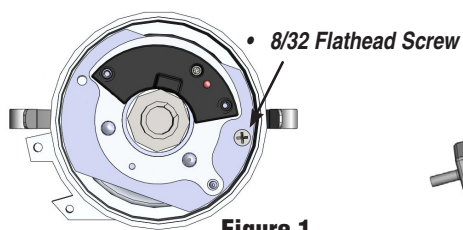

Figure 1
- Rotate module assembly top plate to clear mounting screw holes. (See Figure 1)